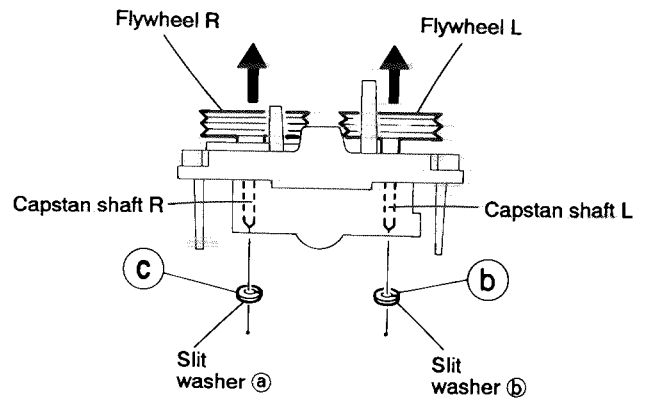

Fig. 5-25
■ **Removing the Flywheel** (See Figs. 5-25 and 5-26)